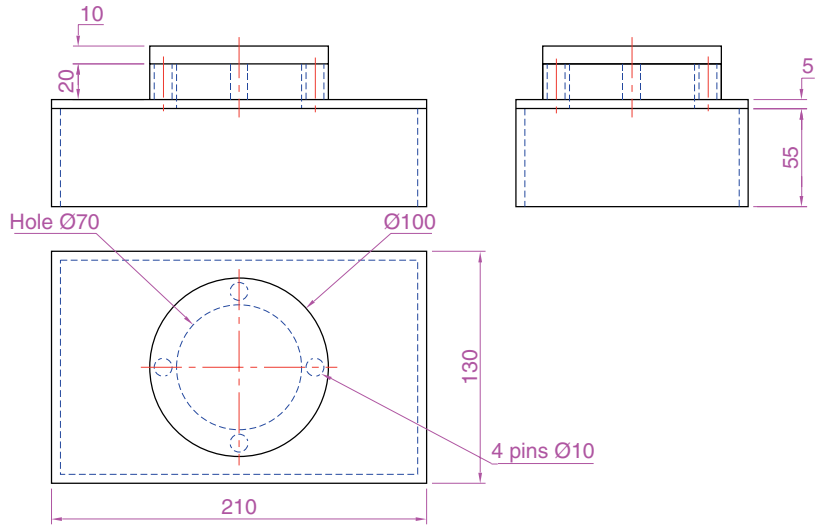

Fig. 15.27 First example – **Section** – orthographic projection
1. Construct a 3D model to the information given in Fig. 15.27 on layer **0**. Note there are three objects in the model – a box, a lid and a cap.